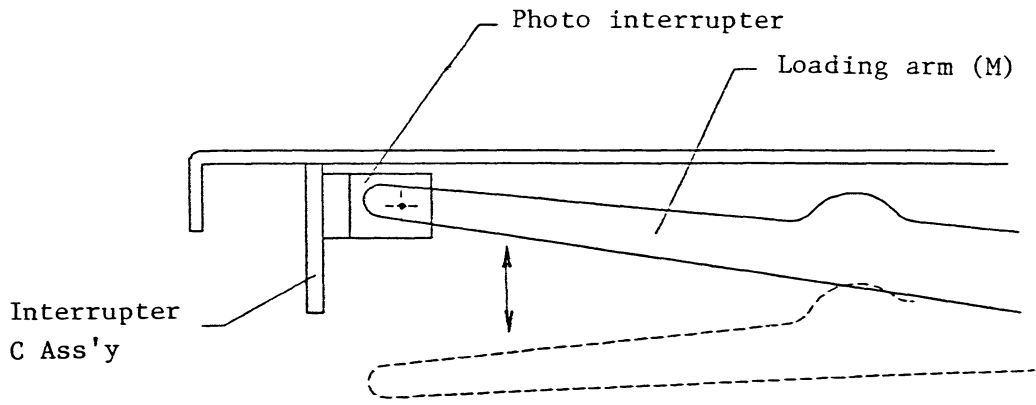

Fig.306 Cassette tape loading detection mechanism
This mechanism consists of a photo interrupter and a loading arm (M) to detect the loading condition of the cassette tape. When the cassette tape is loaded onto the MTU, the optical detection path of the photo interrupter is interrupted by the tip of the loading arm (M). In this status, data can be written or read (Fig. 306).